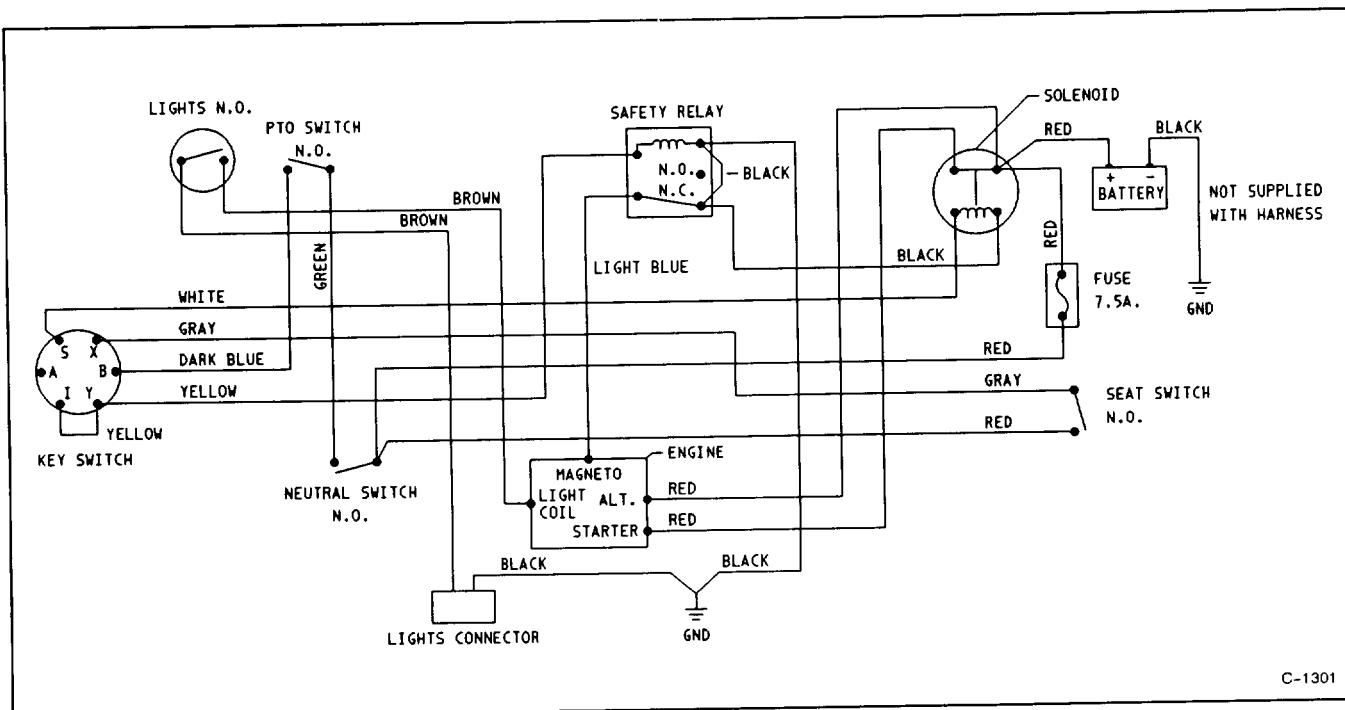

**Figure 15**
The brake is on the right side of the rear axle, inside the rear tire (Fig. 15). If the parking brake does not hold securely, an adjustment is required.
3. To adjust the brake loosen the brake adjusting nut slightly (Fig. 15).
4. Carefully insert a 0.020" (5.08 mm) feeler gauge between the two outer brake pads (Fig. 15).